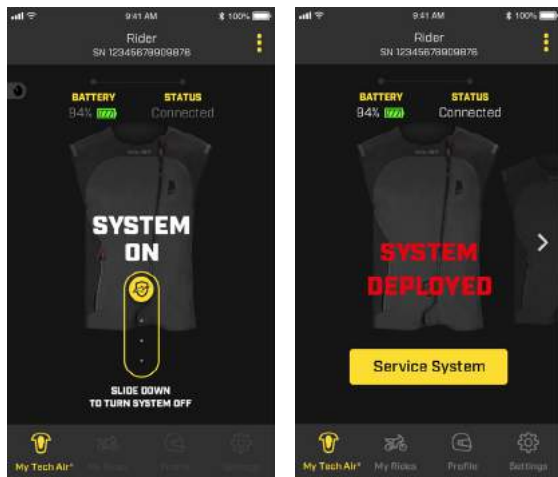

Figure 19
While riding, "SYSTEM ON" mode is active and accordingly, for safety reasons, the user cannot access most of the App functions. In case the System needs to be disabled by the user, such as during a heavy off-road riding session, the System can be turned off using the slide icon on the App (as shown in Figure 19). To reactivate, open and close the Activation Zip (1). In case of deployment, the App will show the relevant status with the wording "SYSTEM DEPLOYED" as depicted in Figure 19.